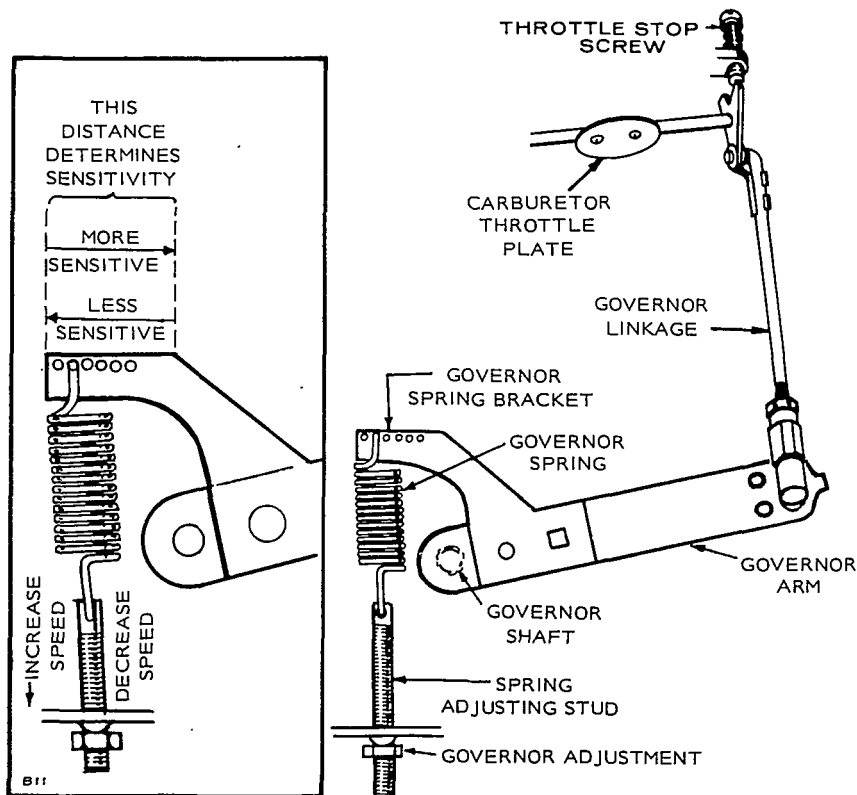

FIGURE 7. STANDARD GOVERNOR ADJUSTMENTS
It is difficult to determine if, after long usage, the governor spring has become fatigued. If, after properly making all other adjustments, the regulation is still erratic, install a new spring, Figure 7.
*To decrease sensitivity*, allowing more speed drop from no-load to full-load operation, move the governor spring outward into a different hole in the extension arm (same as sensitivity setting shown in Figure 7).